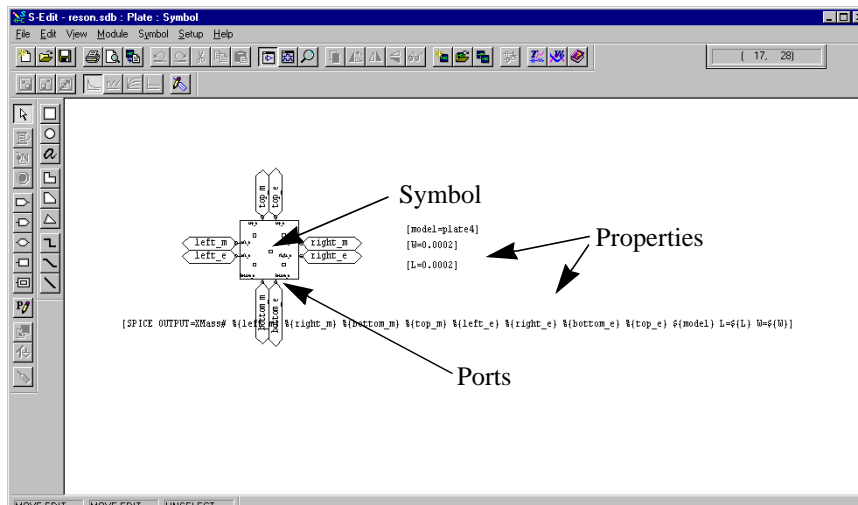

Figure 123: Symbolic view of the resonator
- ☑ Select **File > Open**. Open the **reson.sdb** file in the tutorial directory (Figure 123).